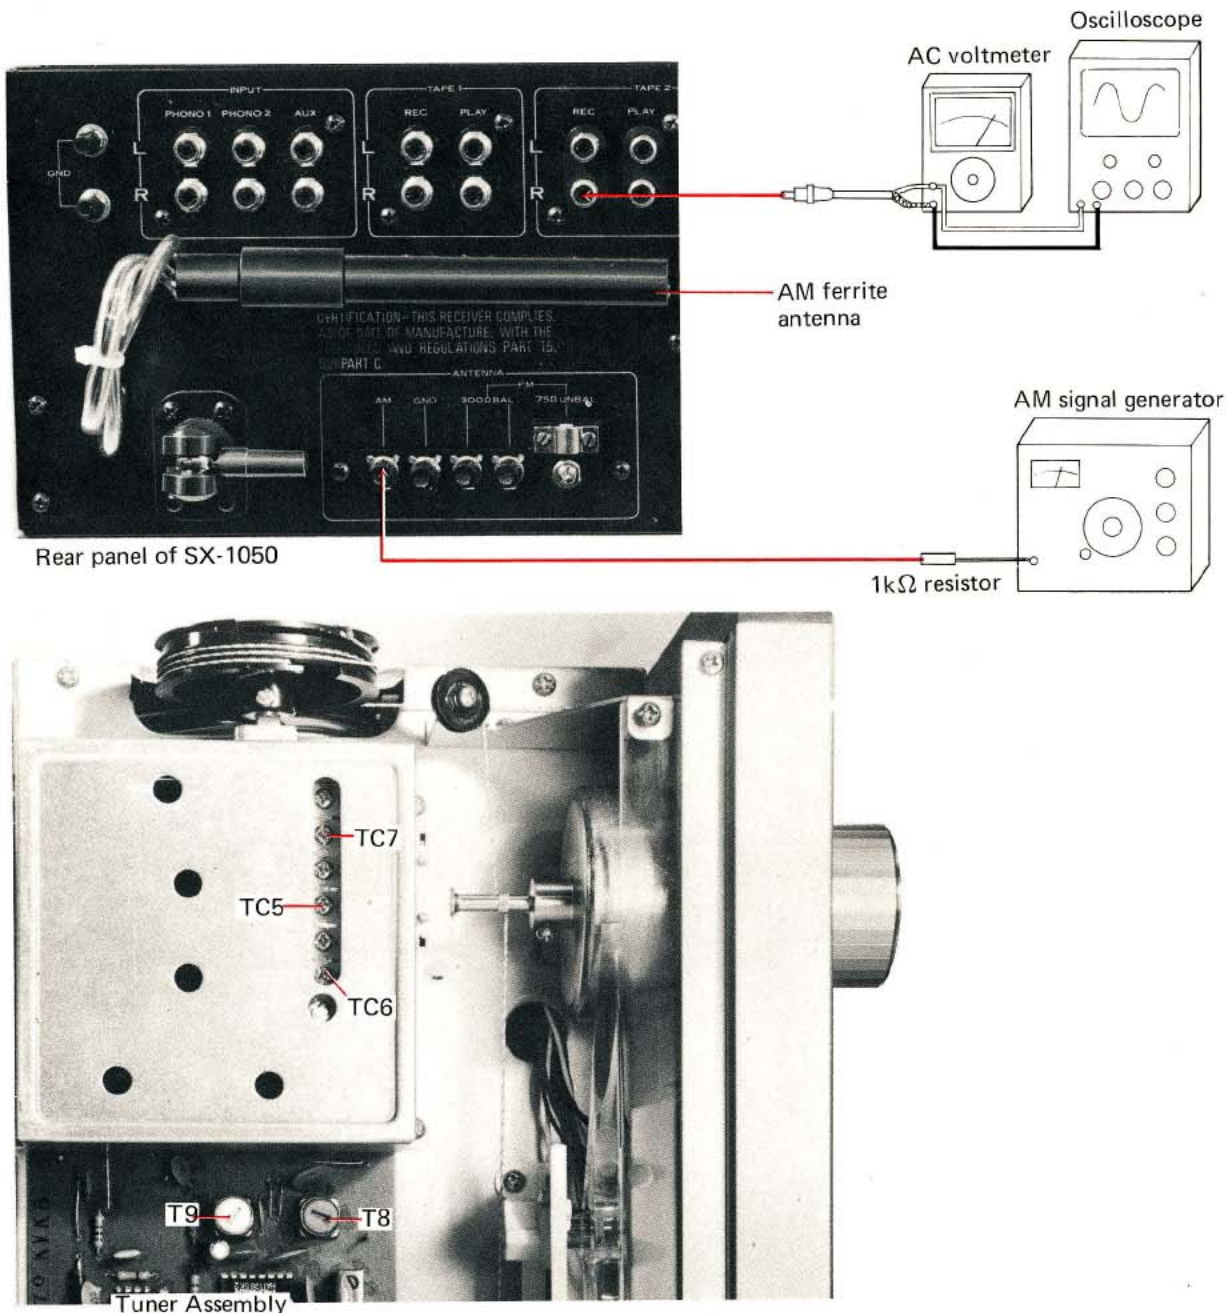

Fig. 28
1. Connect measuring equipment as shown in Fig. 28.